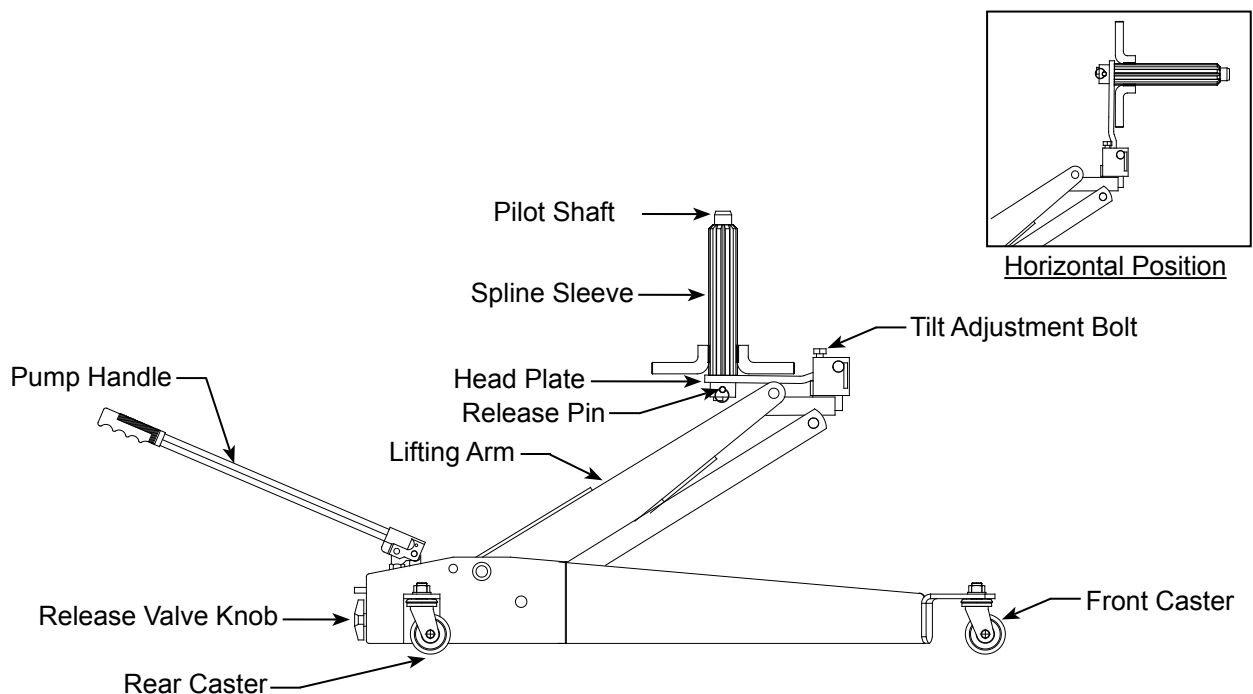

Figure 1 - Model 40500 Components
1. Verify that the product and the application are compatible, if in doubt call Omega Technical Service (888) 332-6419.
3. To familiarize yourself with basic operation, locate and turn the release valve knob (see Fig 1):